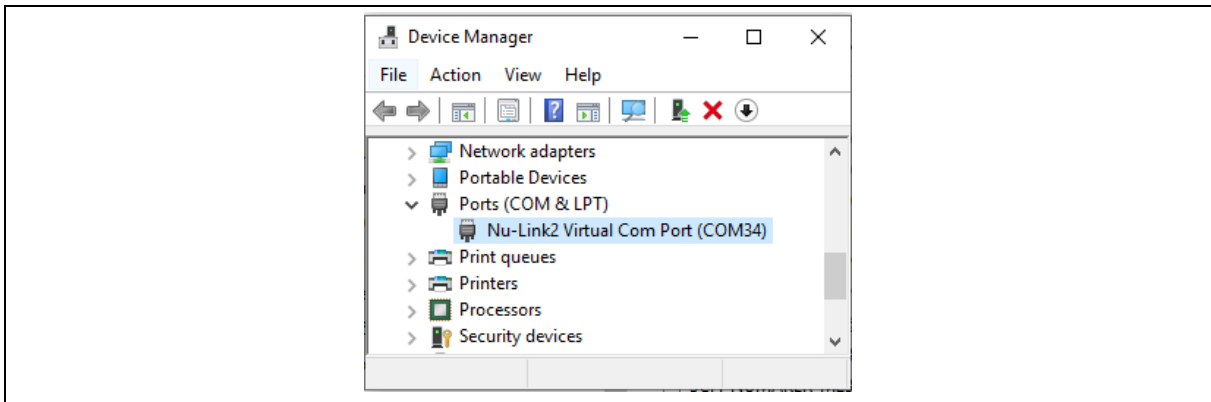

Figure 4-5 Device Manger
3. Find the “Nu-Link2 Virtual Com Port” on the Device Manger as Figure 4-5.